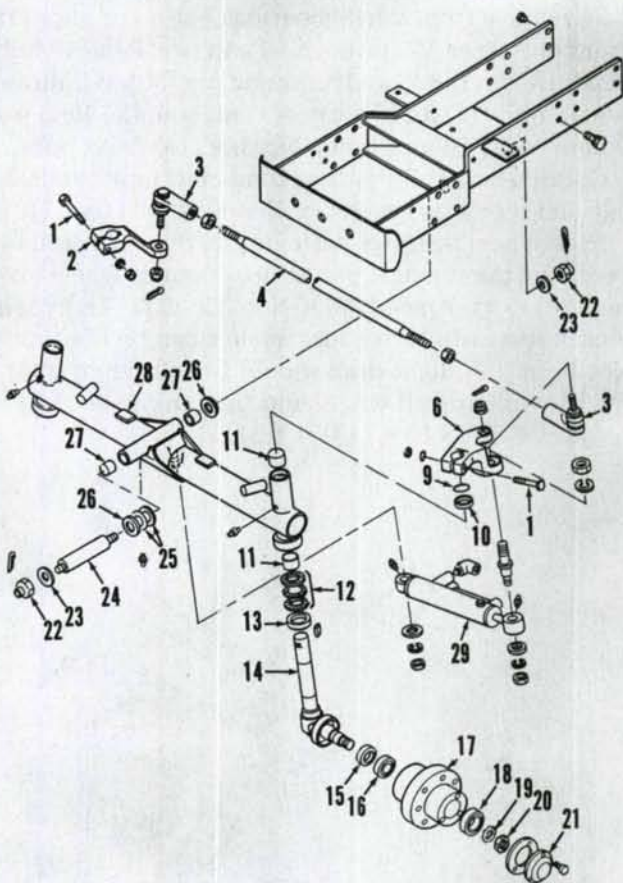

Fig. 1—Exploded view of fixed tread width front axle assembly used on Models 1120 and 1220 equipped with power steering.
with power steering, disconnect hoses from steering cylinder and plug all openings. On all models, remove nut (22—Fig. 1 or 2) from axle pivot shaft (24). Drive pivot shaft out of front axle and axle support, then lower axle assembly from tractor.
Fig. 2—Exploded view of adjustable tread width front axle assembly used on Models 1120 and 1220 equipped with mechanical steering. Refer to Fig. 1 for legend except for the following:
To remove front wheel bearings, raise and support front of tractor. Remove wheel and tire. Remove wheel hub cap (21—Fig. 1 or 2) and retaining nut (20). Withdraw wheel hub (17) and bearings from spindle. Remove wheel seal (15) and inner bearing (16) from hub.
5. REMOVE AND REINSTALL. To remove spindles (14—Fig. 1 or 2), support front end of tractor with suitable stand and remove front wheels and wheel hub as outlined in paragraph 3. Remove clamp bolts (1) from steering arms (2 and 6), then tap spindles out of the steering arms and remove spindles from axle. Drive spindle bushings (11) out of axle if necessary.